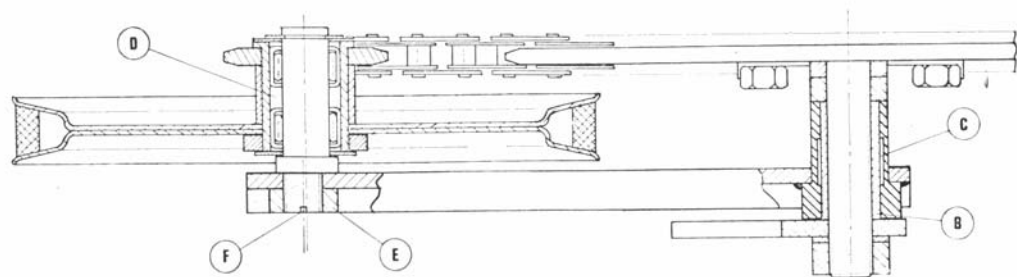

fig. 23
To adjust the tension of the chain (fig. 23):
- to fill the little tank (C) fig. 23 with soap grease;
- to fill the little tank (D) fig. 23 with lithium grease.
- 8.5 **Jamming of the reduction unit oscillating support** (fig. 23)
Disassemble as in sec. 6.4 and check if the bushings (fig. 23-B) is lubricated.